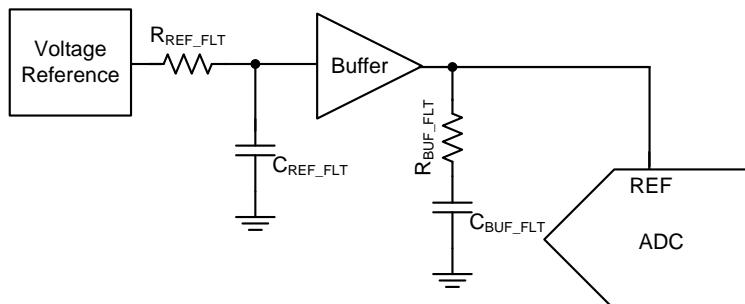

**Figure 40. Input Sampling Stage Equivalent Circuit**
**Figure 40** shows an equivalent circuit of the input sampling stage. The sampling switch is represented by a  $96\Omega$  resistance in series with the ideal switch; see the ADC Input Driver section for more details on the recommended driving circuits.
**Figure 39** and **Figure 40** illustrate electrostatic discharge (ESD) protection diodes to REF and GND from both analog inputs. Make sure that these diodes do not turn on by keeping the analog inputs within the specified range.